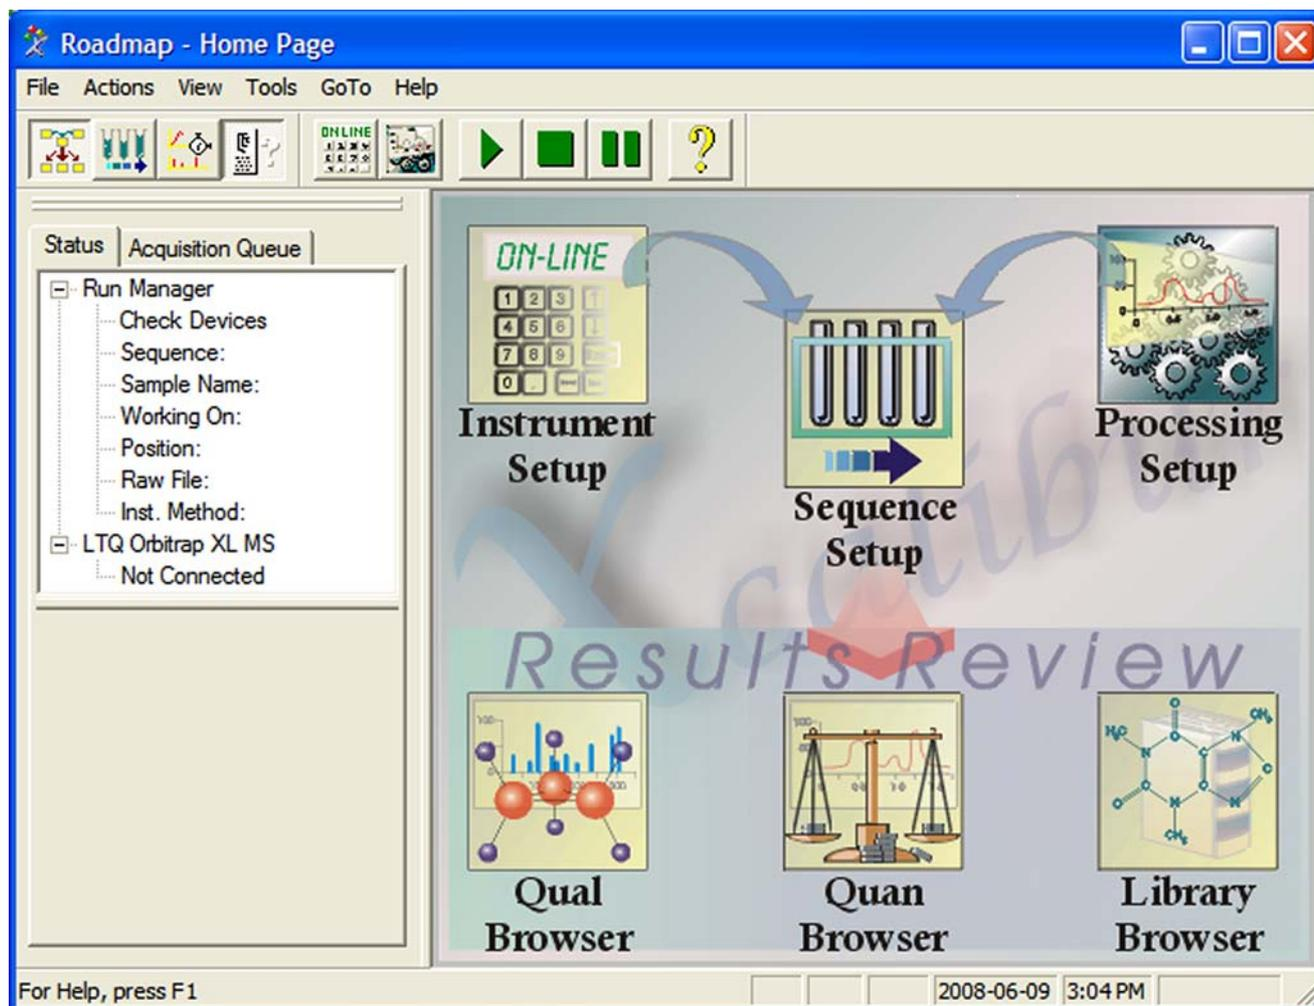
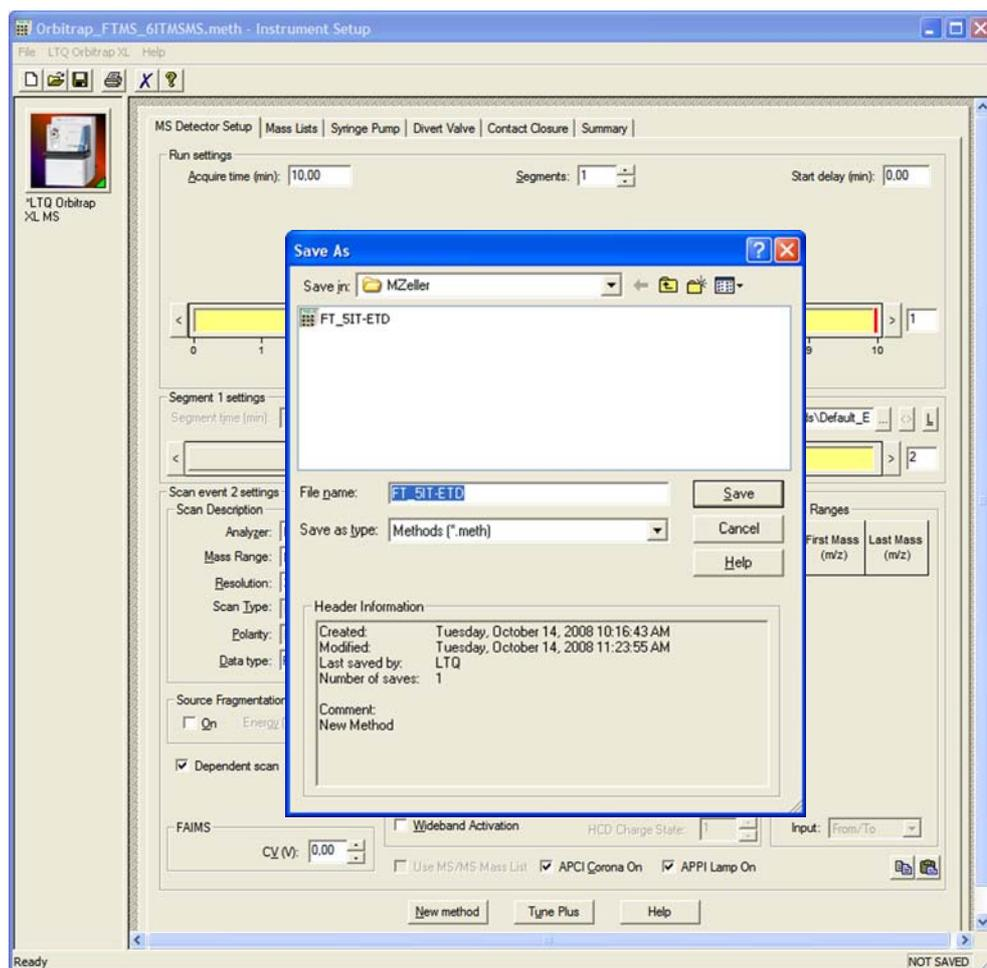

Figure 8-31. Xcalibur Roadmap Home Page
Figure 8-36. Save As window in Xcalibur Instrument Setup, MS Detector Setup view
1. Open the Xcalibur application (for example, from the Windows desktop). The Roadmap Home Page appears. See Figure 8-31.
11. Click **File > Save As** to save your Xcalibur method under the file name of your choice. (See Figure 8-36.) This method can be chosen and run when Sequence Setup is chosen in the Xcalibur Roadmap Home Page. (See Figure 8-31 on page 8-33.) Refer to your Xcalibur software online Help and the previous chapters of this manual for information about the other Data Dependent settings.